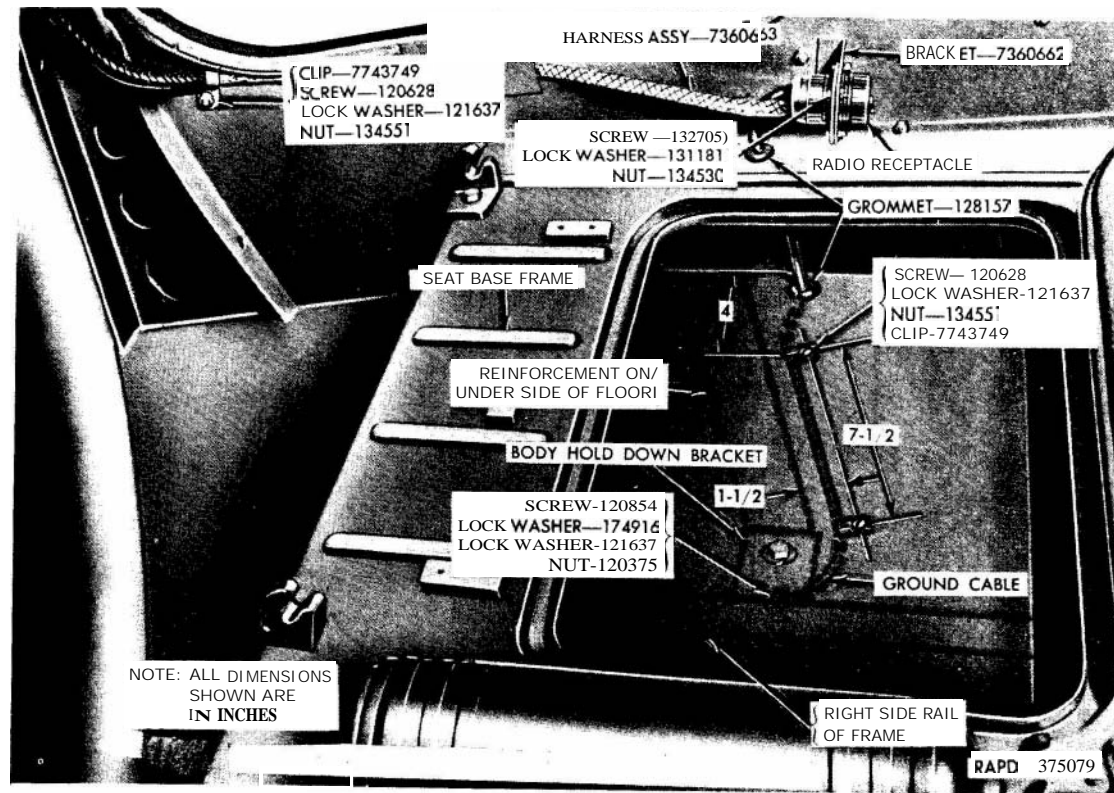
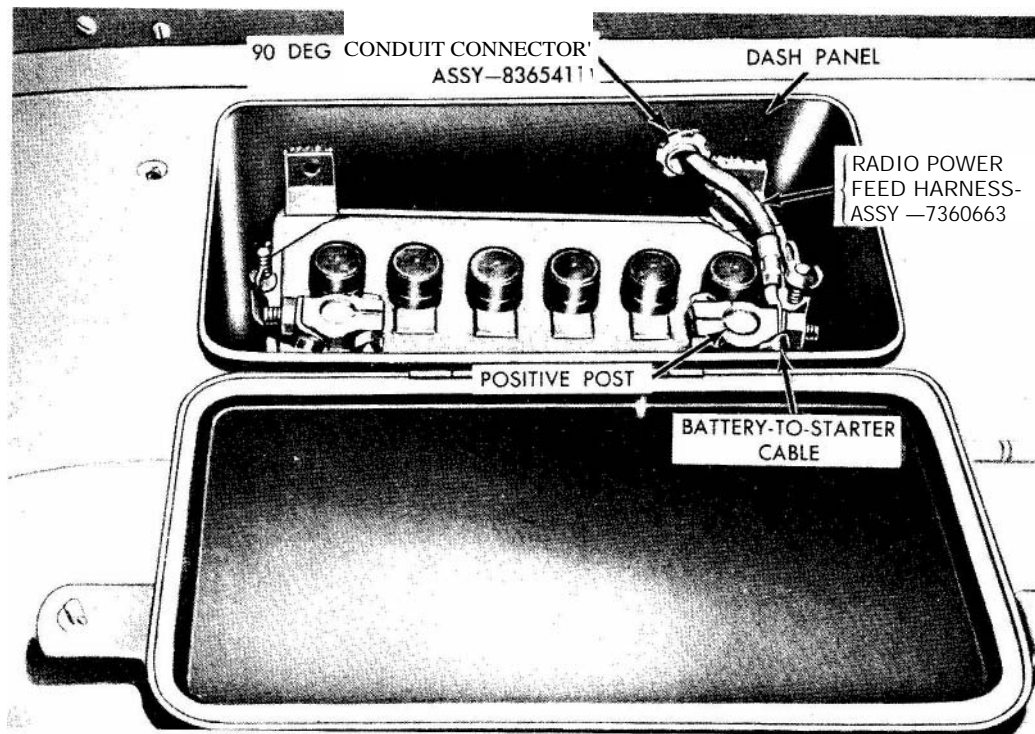

Figure 196. Radio receptacle and ground cable.
Figure 197. Radio power feed harness to battery.
- (2) Position bracket 7360662 on the right side of body approximately 11 inches back from the forward edge of the seat base frame as shown in figure 196.
- (1) Using the bracket as a template, drill two 0.81-inch diameter holes through the side of the vehicle body.
- (2) Fasten the bracket to the side of the vehicle body using two screws 120628, lockwashers 121637 and nuts 134551.
- (3) Fasten the receptacle located on the end of the harness assembly 7360663, to the bracket (2 above), using four screws 132705, ~~lockwashers~~ 131181, and nuts 134530 (*fig. 196*) use one of these screws to fasten the chain of the receptacle cap 7261674 to bracket.
- (4) Drill two 0.687-inch diameter holes, one in the seat base frame and one in the vehicle floor as shown in figure 196. Install a grommet 128157 in each hole.
- (5) Insert the ground cable from the receptacle and pull the cable down until all the slack is under the floor of the vehicle (*fig. 196*) .
- (6) Drill two 0.281-inch diameter holes in floor of the vehicle for screws to secure cable clips as indicated in figure 196.
- (7) Attach the ground cable to the underside of the vehicle floor using two clips, 7743749, screws 120628, ~~lockwashers~~ 121637 and nuts 134551.
- (8) Attach the end of the ground cable to the right side rail of the frame as indicated in figure 196. The nale near the body hold-down bracket will be used for attaching screw 120584. Install the cable terminal under the head of the screw with one lockwasher ~~174916~~ between the head of the screw and the terminal and another one between the terminal and the side rail. Use lockwasher 121637 and nut 120375 to secure screw.
- (9) Remove the cowl battery box cover in accordance with the pertinent manual.
- (10) Remove battery ground cable.
- (11) Remove the plug from the round hold which provides access to the battery box through the dash panel.
- (12) Install a 90° connector 8365411 in the opening in the dash panel as shown in figure 197.
- (13) Pull the radio power feed harness assembly through the 90° connector into the battery box. Remove the terminal nut from the battery positive post to which the battery-to-starter cable is attached and attach the radio power
- (14) Install the battery box cover in accordance with pertinent technical manual.
- (15) Position two clips 7743749 (fig. 196) on the right side of the vehicle to hold the harness against the side of the vehicle. Drill two  $\frac{9}{32}$ -inch diameter holes at location of clips and secure the clips with two screws 120628, lock-washers 121637, and nuts 134551 (fig. 196). If the harness is too long, the excess will be looped and fastened under the instrument panel.